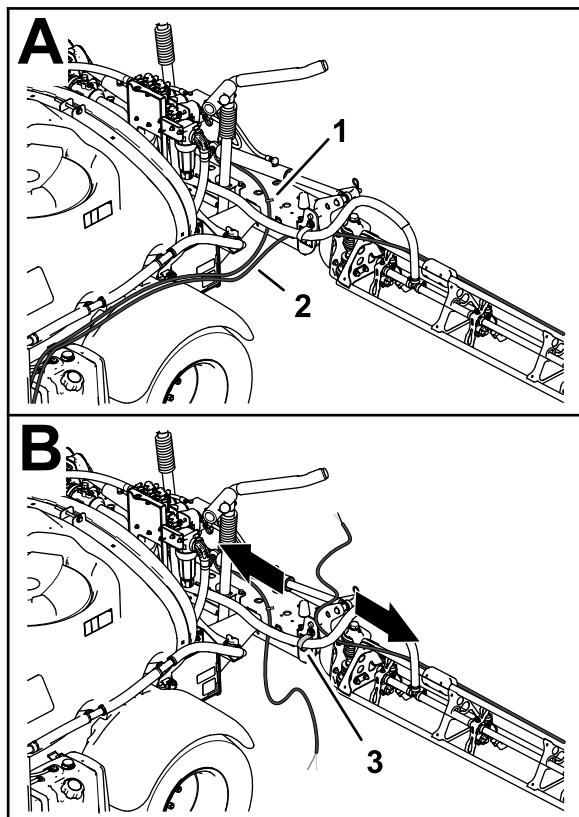

Figure 17
2. Move the tubes for the foam nozzles at the left- and right-spray section rearward and through the R-clamp near the pivot point for the spray section (Figure 17).